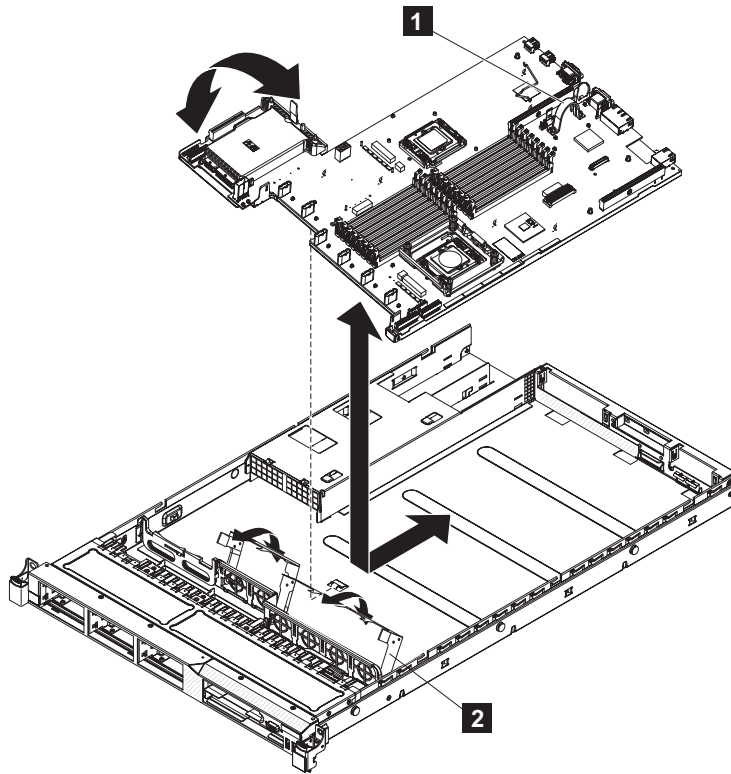

Figure 289. Removing and replacing the SAN Volume Controller 2145-CG8 or 2145-CF8 system board
2. Place the side of the system board assembly that is farther from the power supply units beneath the catches. Lower the opposite side of the system board until it is flat in the chassis. Align the rear connectors with the holes in the rear of the server and slide the system board towards the rear of the node, as shown in Figure 289 on page 287.